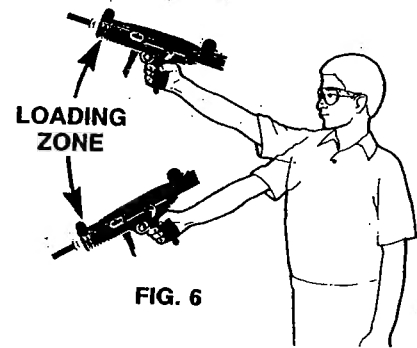
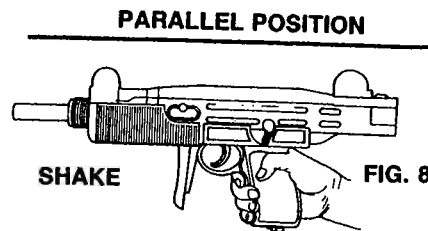

FIG. 6
FIG. 8
- Your pistol has a gravity BB feed system. In order to allow BBs to move into the fire position, the pistol must be held within the loading zone shown in Fig. 6. Outside this zone you may not be able to fire a BB unless you have previously brought the pistol through the load zone. If you fire the gun and a BB doesn't come out of the barrel, don't assume the gun is empty. Hold the gun in a parallel position, (Fig. 8) shake it and resume firing at your target.
- Return the pistol to a parallel firing position as shown in (Fig. 8); shake the pistol, point in a SAFE DIRECTION, take the pistol off safe, and fire.